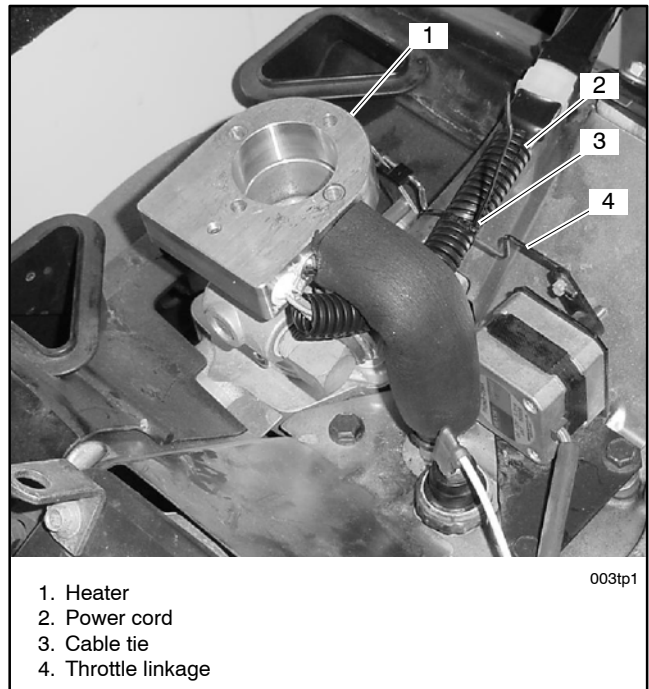

Figure 12 Heater Location
- 5.3 For the Model 8.5/11RMY, route the power cord along the fuel line. See Figure 12.